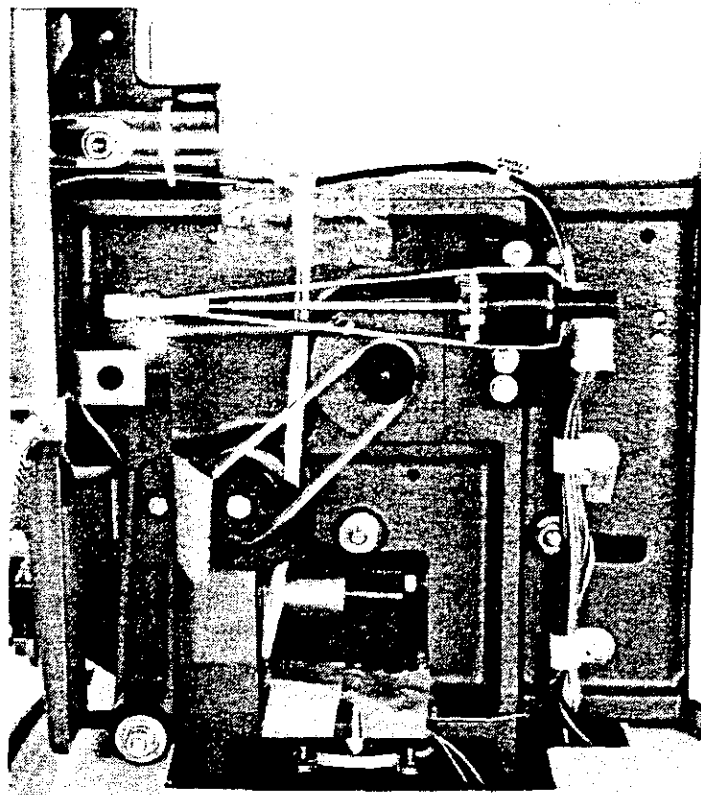

Figure 1-3 Main Head Packaging -Inner Right Side
- Step 16 Inside the righthand side of the Main Head remove the rubber band which holds the Height Control Link to the main LVDT holder (see Figure 1-3).
- Step 17 Remove the sponge packing from between the Cam Pulley and the Height Control Link (see Figure 1-3).
- Step 18 Remove the protective packing from the Heel Ball (see Figure 1-3).